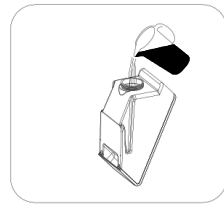

Fig. 9
- To the case with water, water from the army covered with water. (as in figure 9) if you water it is very high degrees of hardness of water resources management (consult) , if possible please use the following of the mixed distillation water or soften : 50% of the water with fountain 50% distillation water or soften or drink water is pure water.